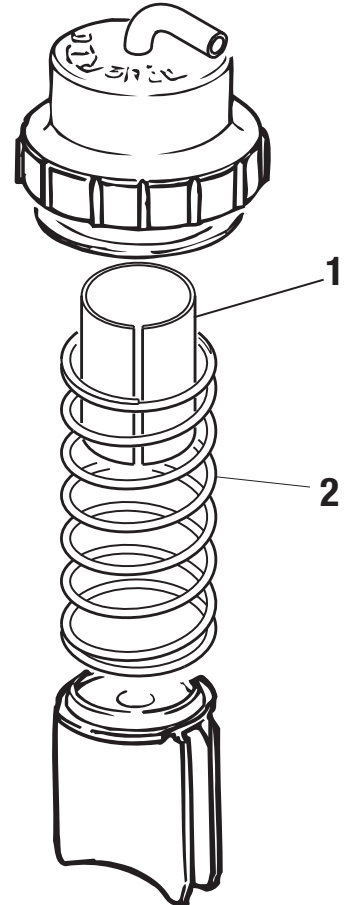
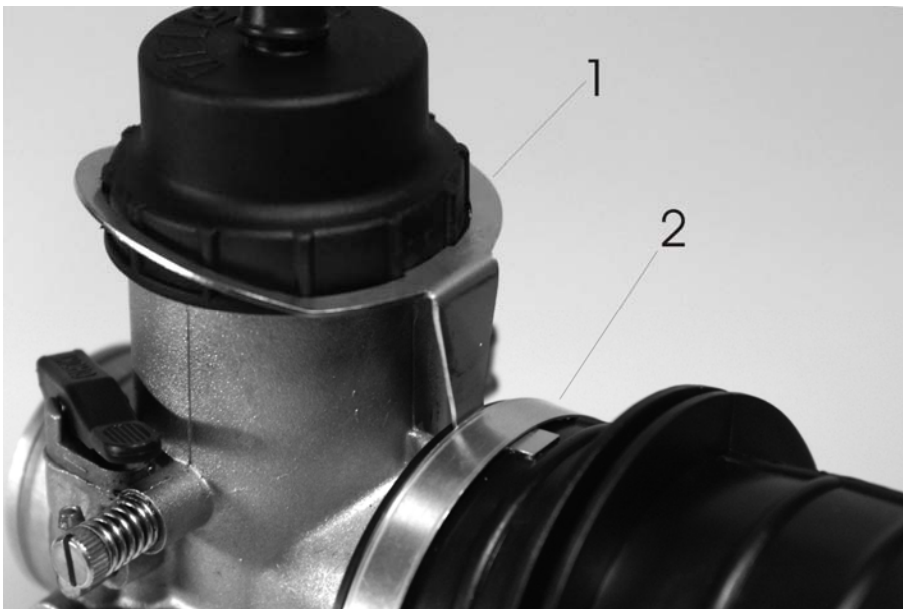

Fig. 2
Fig. 3
- ➔ Install carburettor slide stop sleeve (1) inside carburettor cover as shown on (figure 2).
- **Attention:** Reset spring (2) of carburettor slide presses against carburettor cover, and might eject carburettor cover at removal.
- ➔ Install carburettor cover fixation plate (1) as shown on figure 3, the fixation plate (1) is held in place via the clamp (2) for the carburettor socket.
Installation position see Fig. 2 installation instruction